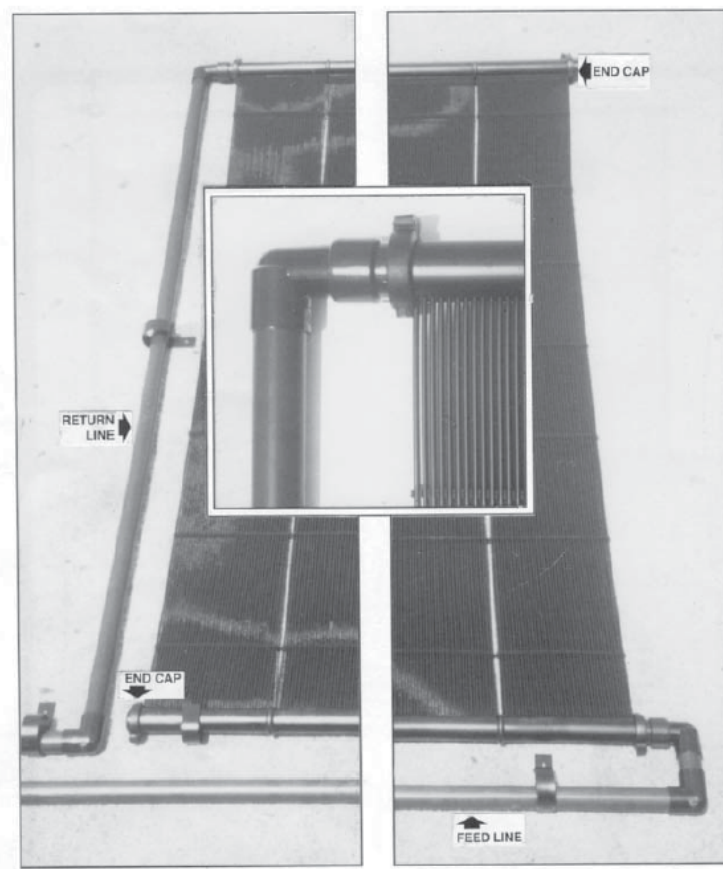

Fig. 12.1
1. Cement the appropriate size PVC 90-degree elbow to the return line stub facing down toward the bottom header. Repeat the process for the feed line header stub and face the elbow down away from the array. (see Fig. 12.1, page 19).